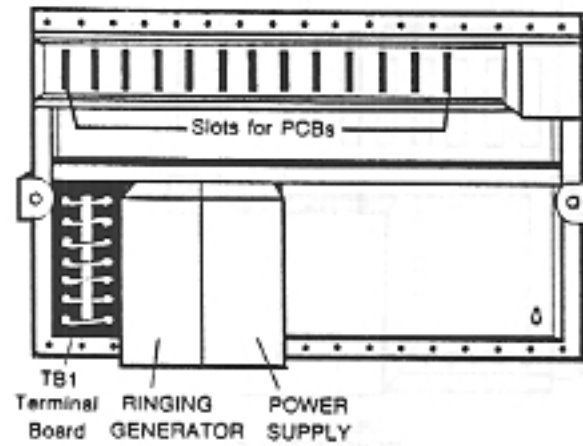
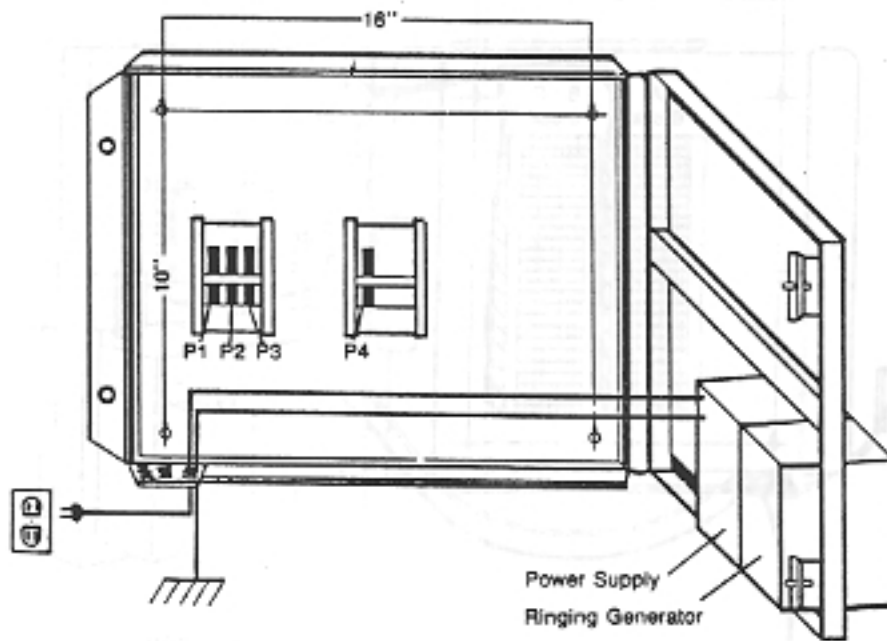

Figure 3 13 CARD KSU OUTSIDE VIEW
Figure 4 13 CARD KSU WITH HINGED SHELF OPENED
**1.05** The 13 Card KSU is designed for wall mounting. Eight of the 13 card positions can be used for B-OPX-A PCBs ( Figure 3 ). Remaining positions can be used to accommodate future teline applications. The 13 Card KSU is similar to the 6 Card KSU in that the Power Supply and Ringing Generator are mounted on the shelf ( Figure 4 ). The 13 Card KSU contains four 50 pin plugs located on the back of the unit and a terminal block located on the front.